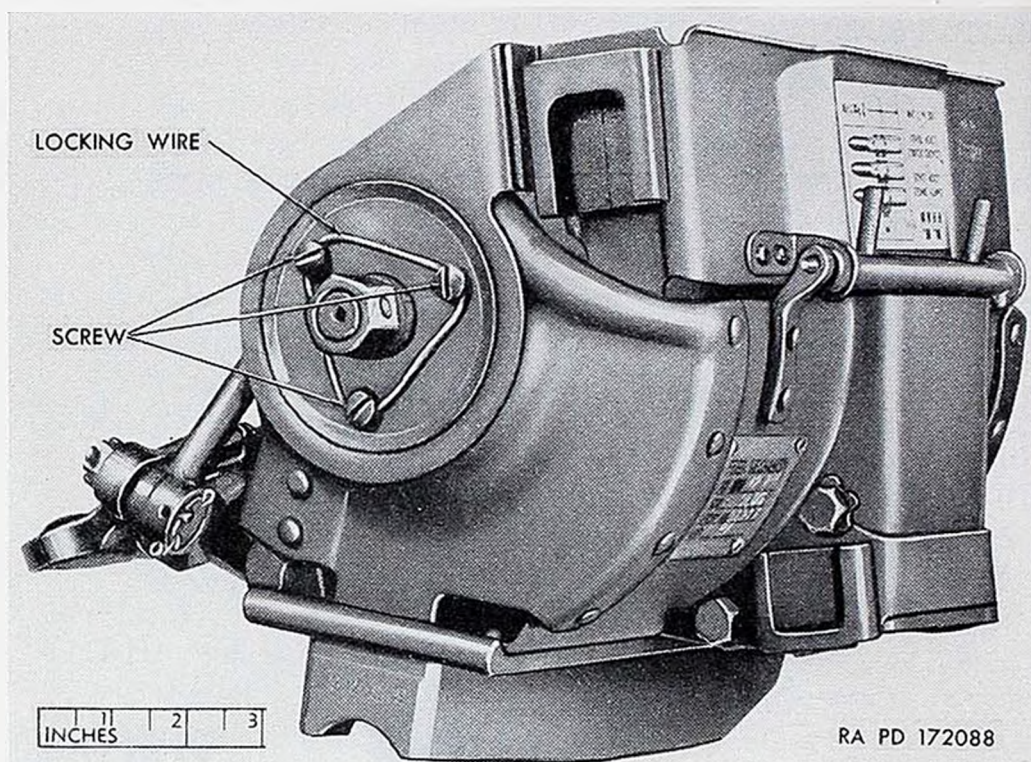
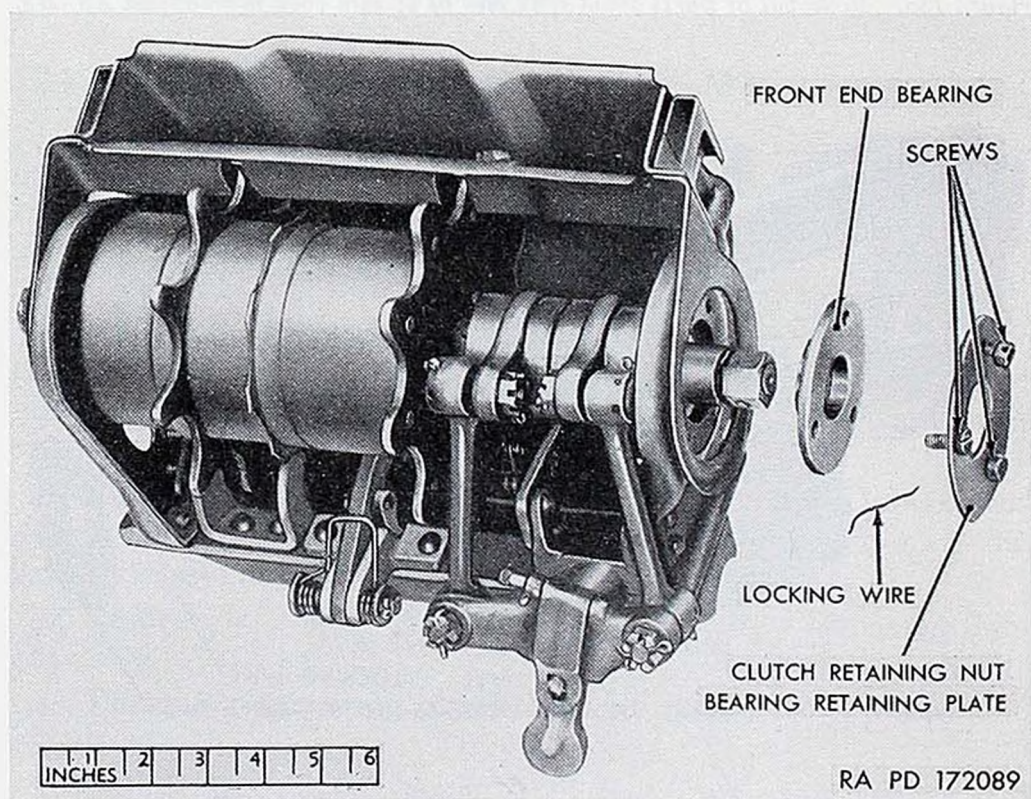

Figure 137. Removal of parts from front end of 20-mm feed mechanism AN-M2.
Figure 138. Parts removed from front end of mechanism AN-M2.
b. Remove locking wire and the three screws on front side of feed mechanism, as shown in figure 137. Remove clutch retaining nut bearing retaining plate and front end bearing (fig. 138).